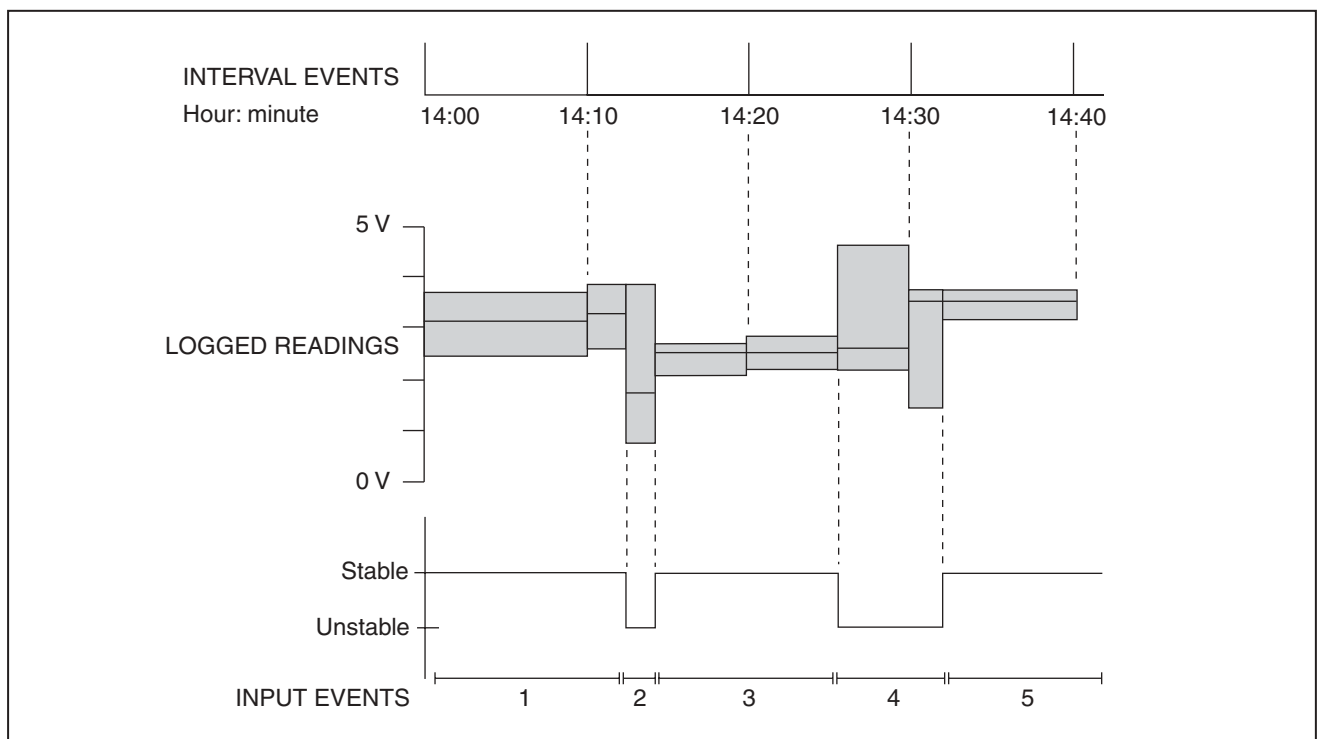

Figure 2. Interval Events and Input Events
Input events are described as either *stable* or *unstable*. Stable input events contain readings that fall inside the user-defined settings. Unstable input events contain readings that fall outside the user-defined settings. See Figure 2.
- *Interval events* are logged when the user-defined logging interval is up. Interval events can be thought of as a series of readings divided into sections by time. See Figure 2.